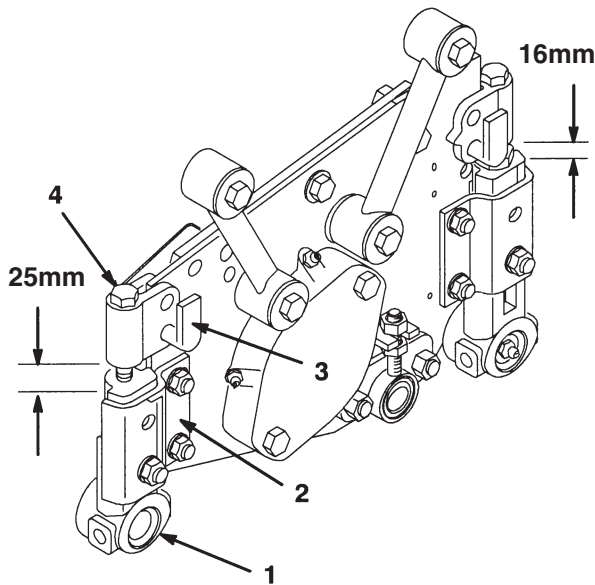

Figure 6
- Adjust the support cap screw to achieve $25\text{mm} \pm 1.5\text{mm}$ dimension between the height-of-cut support and the front roller bracket (2 places) (Fig. 6).
- Adjust the support cap screw to achieve $16\text{mm} \pm 1.5\text{mm}$ dimension between the height-of-cut support and the rear roller bracket (2 places) (Fig. 6).